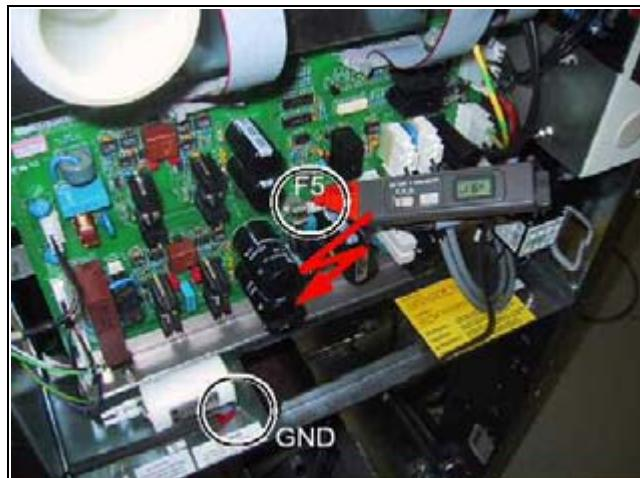

Fig. 24: Alignment D927 capacitor voltage at F5_Measure ground
- Measure the residual voltage at measurement points on board D927, "fuse F5 and the metal frame" (GND/F5/Fig. 24 / p. 39). Discharge from max. 440 V to < 2 V takes approx. 15 to 20 minutes.